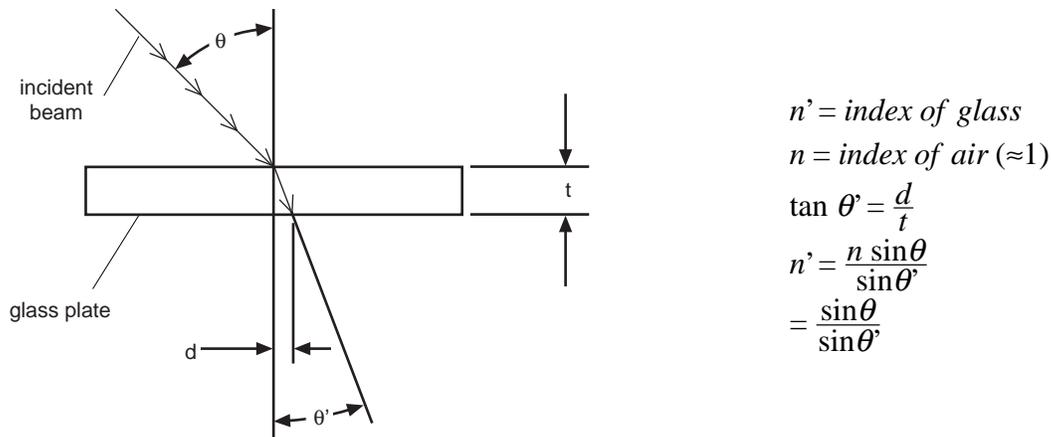

Figure 2.1: Calculating the Index of Refraction
- ① Take a square piece of paper about 5 centimeters on a side, and carefully draw a millimeter scale across the middle (you can trace the scale printed on the viewing screen.)
- ② Using the same equipment setup as in Experiment 1, put the paper between the glass plate and the special component carrier on paper between the glass plate and the special component carrier on the angular translator. The magnetic surface will hold the glass plate and paper in place. The millimeter scale should run horizontally.
- ③ Adjust the position of the special component carrier until the back surface of the glass plate coincides with the perpendicularly scored line on the table.
- ④ With the glass plate sitting perpendicular to the bench, adjust the position of the aperture mask so that one vertical edge of the image on the paper lines up with the scored line on the table which is parallel to the bench. If the glass does not alter the light's path, the vertical edge which was centered should remain centered although the translator's table is rotated.
- ⑤ Rotate the table and record what happens to the previously centered edge. Is the incident ray refracted toward or away from the normal to the glass? Figure 2.1 shows how to calculate the index of refraction given the angle of rotation and the edge displacement of the image.